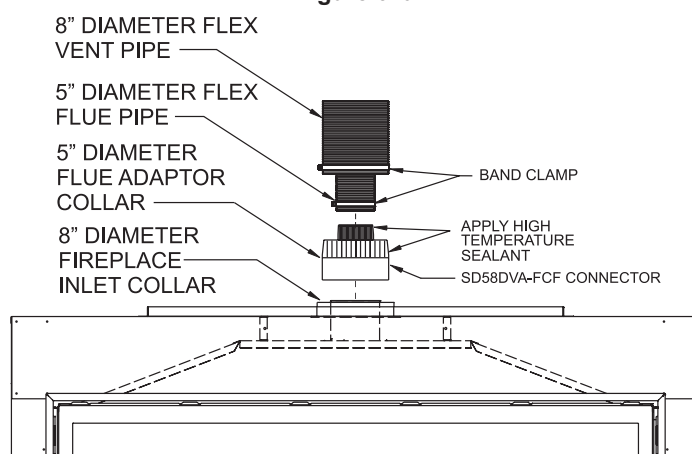

Figure 62b
NOTE: For installation of Flex Venting on Fireplaces that have Flue and Inlet Vent collars flush with top of the fireplace, it is recommended that an SD58DVA-FCF Connector be used. When using the SD58DVA-FCF Flex Vent Connector, it will require removing (or cutting off) the 5" diameter adapter from the DVVK5F Flex Flue. **See Step 10b and Figure 62b.**
- 10a. Apply sealant to the outside of the flue pipe adapter and connect to the flex flue pipe. Then insert the adapter into the fireplace flue. Secure the flue adapter to the fireplace flue with a minimum of two screws provided. **See Figure 62b.**
- 10b. If using the SD58DVA-FCF Vent Connector, apply sealant to the inside of the 5" diameter flex flue pipe, then connect the flex flue to the 5" flue takeoff on the SD58DVA-FCF Connector. Use a 5" diameter band clamp and a minimum of two screws to secure the flex flue to the SD58DVA-FCF Connector. **See Figure 62b.**